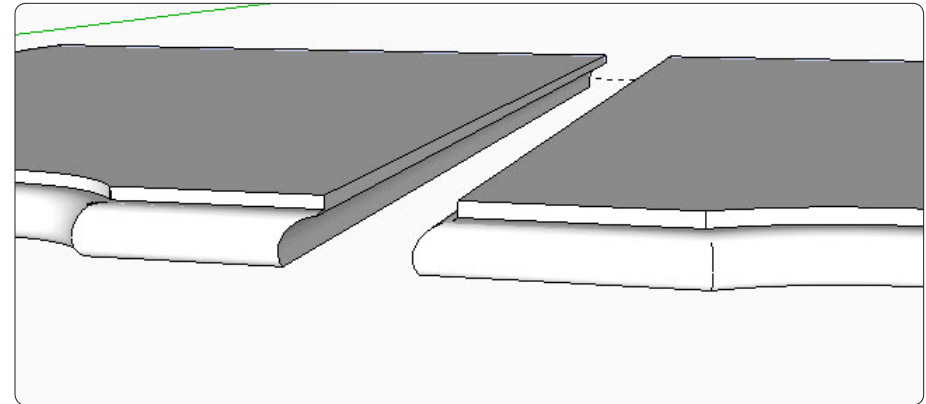

Figure 43. The rule joint, seen from the front edge of the tabletop.
Step 5 Orbit Tool around to the molded front edge of the top and leaf. Select all the graphics in the top, right-click on the selection, and choose Intersect Faces with Selection from the pop-up menu. Clean up the waste with the Eraser Tool. Do an identical Intersect Faces with Selection process on the leaf. The result will look like the joint shown in Figure 43.